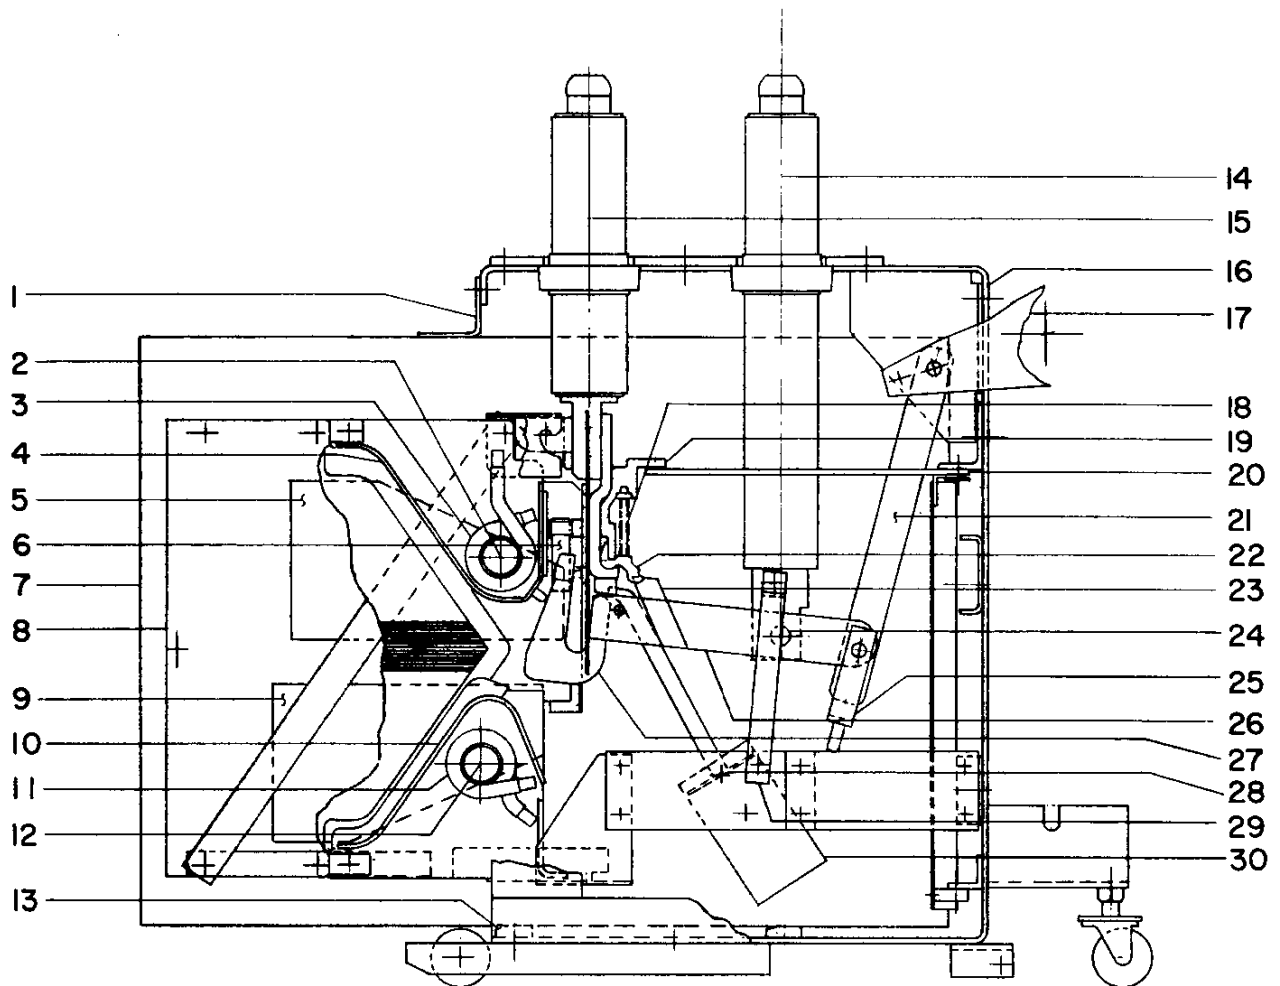

Figure 8. (0152C5973) Cross Section of Breaker Pole Unit
As the breaker opens to interrupt a current, the arc first starts at the arcing contacts (6 & 27) Figure 8, transfers to the arc runner (4 & 10) and energizes the blow-out coils (3 & 11). This action introduces a magnetic field between the pole pieces (5 & 9) of the interrupter that forces the arc deeper into the arc chute (8). At the time the arcing contacts part a discharge of air is expelled through the booster tube (28) across the arc. This air flow assists the arc transfer and interruption by blowing the arc away from the contacts and into the arc chute. The magnetic field forces the arc deeper into the interrupter along the diverging arc runners.